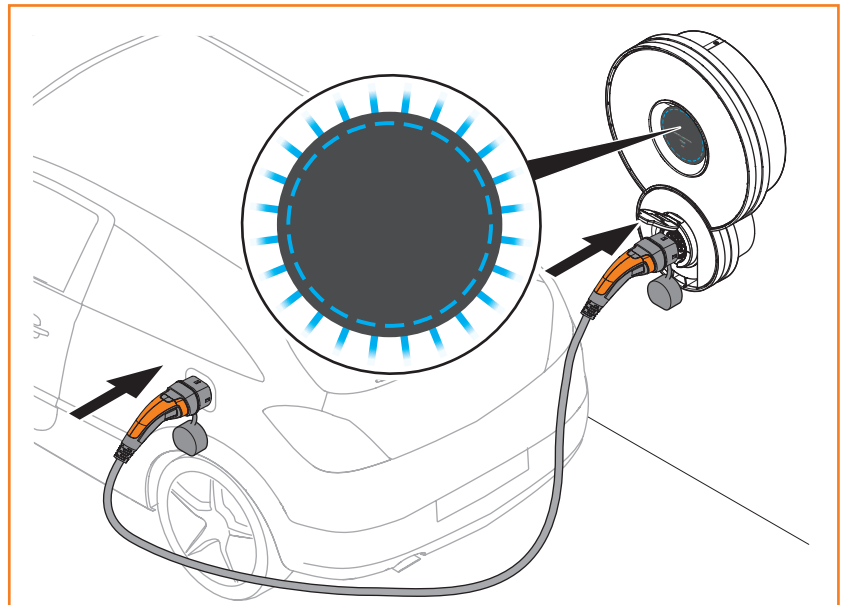

Fig. 4 Connecting the vehicle to the product
- ▶ Use the charging cable to establish a connection between the product and the vehicle (see Fig. 4).